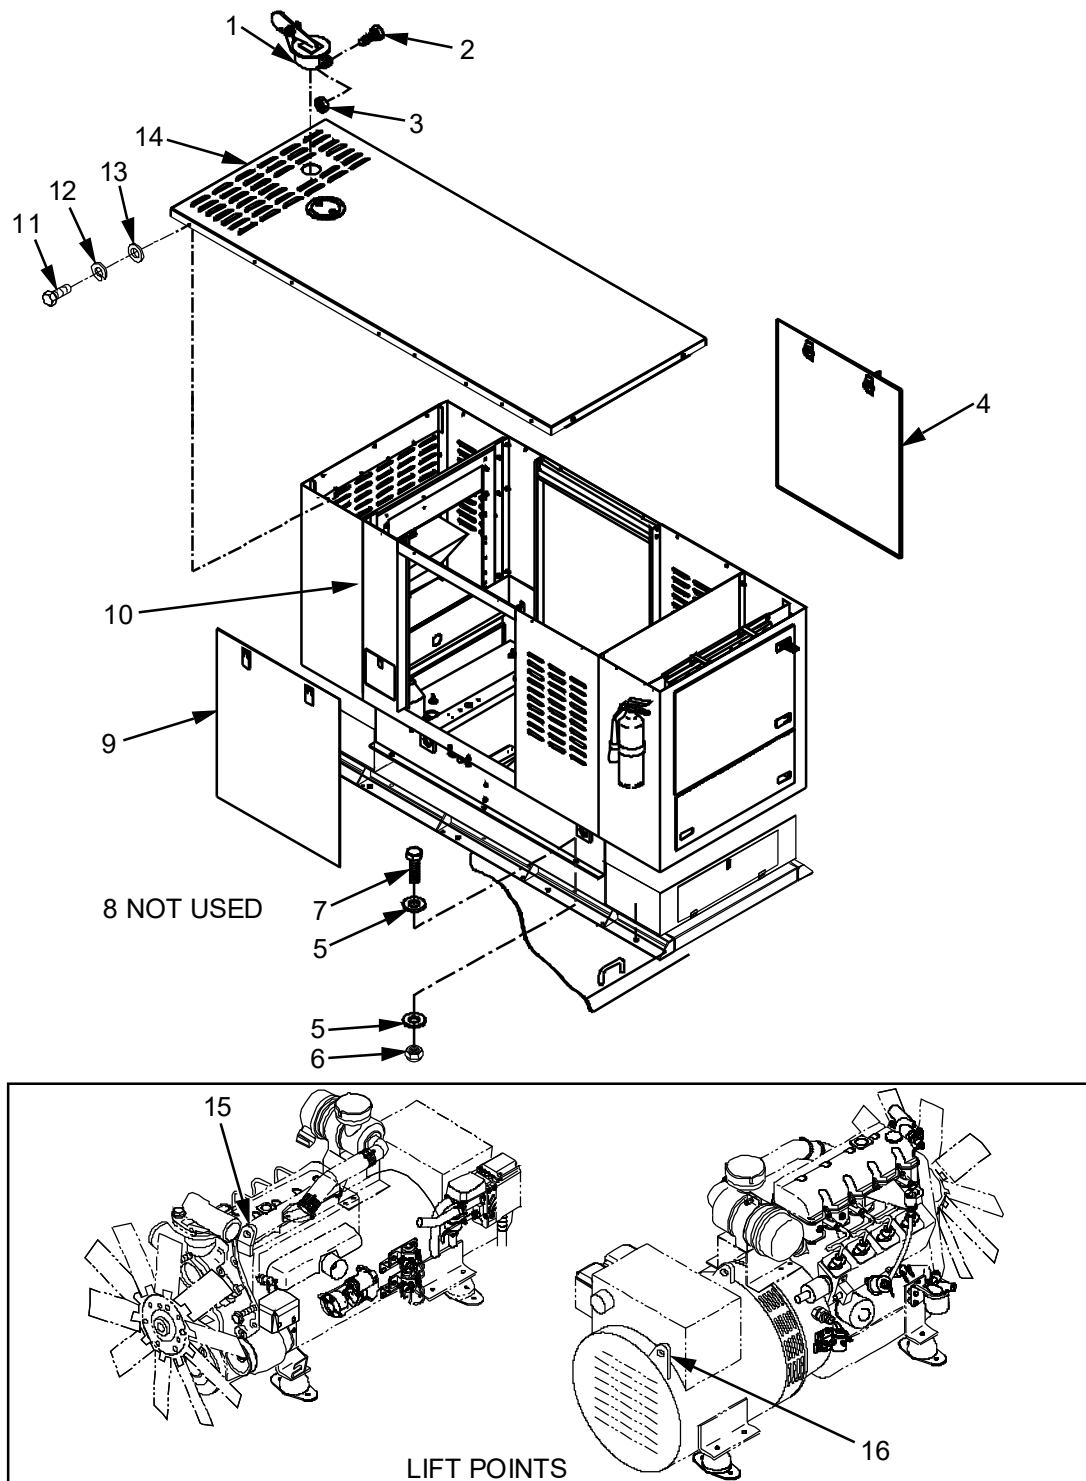

Figure 1. Genset - Replace.
2. Remove cargo restraints (not shown) to gain access to rear access panel (Figure 1, Item 4) of Genset (Figure 1, Item 10).
3. Remove access doors (Figure 1, Items 4 and 9) of Genset (Figure 1, Item 10) and set aside.
5. Disconnect ground cable from external ground stud on Genset (Figure 1, Item 10).
6. Disconnect internal chassis ground from Genset (Figure 1, Item 10) and trailer ground.
7. Loosen but do not remove nut (Figure 1, Item 3) and bolt (Figure 1, Item 2) that secures exhaust pipe cap (Figure 1, Item 1). Remove exhaust pipe cap (Figure 1, Item 1) and set aside.
8. Remove and retain 20 bolts (Figure 1, Item 11), lock washers (Figure 1, Item 12), and flat washers (Figure 1, Item 13) that secure top access panel (Figure 1, Item 14) to Genset (Figure 1, Item 10). Remove top access panel (Figure 1, Item 14) and set aside. Discard lock washers (Figure 1, Item 12).
9. Remove and retain six bolts (Figure 1, Item 7), six lock nuts (Figure 1, Item 6), and twelve flat washers (Figure 1, Item 5) from bottom of Genset (Figure 1, Item 10). Discard lock nuts (Figure 1, Item 6).
10. Attach chain/sling to the two lift points (Figure 1, Items 15 and 16). One lift point (Figure 1, Item 15) is located on the engine and one lift point (Figure 1, Item 16) is located on the generator.
11. Place supports (i.e., treated lumber) along ground for Genset (Figure 1, Item 10) to be placed on once removed from trailer.
12. Using a suitable lifting device, raise Genset (Figure 1, Item 10) off of trailer and place on supports. Once Genset (Figure 1, Item 10) is safely lowered, remove chain/sling from lift points.
1. Remove access doors (Figure 1, Items 4 and 9) of Genset (Figure 1, Item 10) and set aside.
3. Loosen but do not remove nut (Figure 1, Item 3) and bolt (Figure 1, Item 2) that secures exhaust pipe cap (Figure 1, Item 1). Remove exhaust pipe cap (Figure 1, Item 1) and set aside.
4. Remove and retain 20 bolts (Figure 1, Item 11), lock washers (Figure 1, Item 12), and flat washers (Figure 1, Item 13) that secure top access panel (Figure 1, Item 14) to Genset (Figure 1, Item 10). Remove top access panel (Figure 1, Item 14) and set aside. Discard lock washers (Figure 1, Item 12).
5. Attach chain/sling to the two lift points (Figure 1, Items 15 and 16). One lift point (Figure 1, Item 15) is located on the engine and one lift point (Figure 1, Item 16) is located on the generator.
6. Using a suitable lifting device, raise Genset (Figure 1, Item 10). Insert three bolts (Figure 1, Item 7) and three washers (Figure 1, Item 5) in rear mounting holes of Genset enclosure to be used as guides for mounting holes while lowering Genset enclosure onto trailer bed.
7. With Genset (Figure 1, Item 10) in place on trailer, insert remaining three bolts (Figure 1, Item 7) and washers (Figure 1, Item 5) in front mounting holes of Genset enclosure.
8. Install six new lock nuts (Figure 1, Item 6) and flat washers (Figure 1, Item 5) and secure Genset (Figure 1, Item 10) to trailer.
9. Once Genset (Figure 1, Item 10) is secured to trailer, remove chain/sling from two lift points (Figure 1, Items 15 and 16).
11. Reconnect ground cable to external ground stud on Genset (Figure 1, Item 10).
12. Reconnect internal chassis ground to Genset (Figure 1, Item 10) and trailer ground.
13. Replace top access panel (Figure 1, Item 14) onto Genset and secure using 20 bolts (Figure 1, Item 11), new lock washers (Figure 1, Item 12) and flat washers (Figure 1, Item 13).
14. Install exhaust pipe cap (Figure 1, Item 1) and tighten nut (Figure 1, Item 3) and bolt (Figure 1, Item 2) that secures exhaust pipe cap (Figure 1, Item 1).
19. Install two access panels (Figure 1, Items 4 and 9).